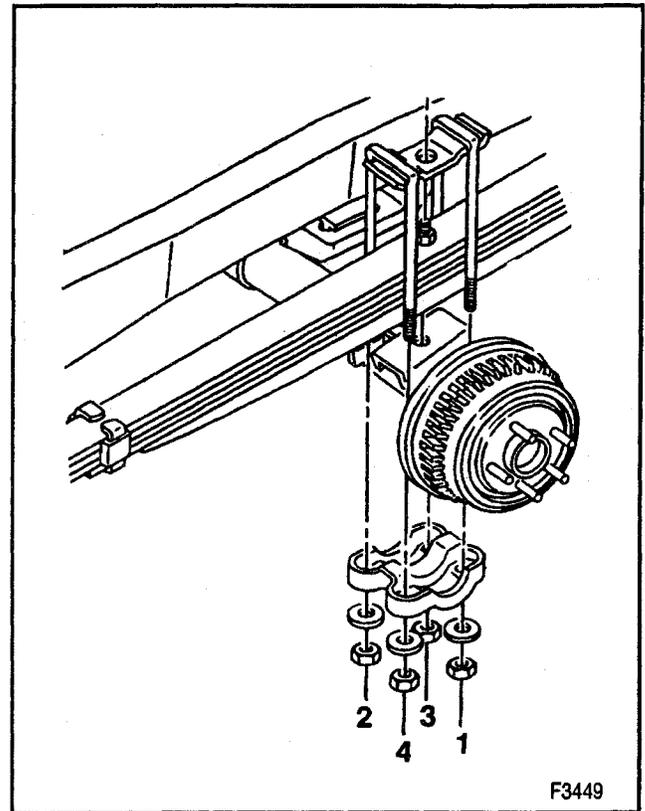

Figure 5—U-Bolt Tightening Sequence
- Nuts (7) in sequence (Figure 5).